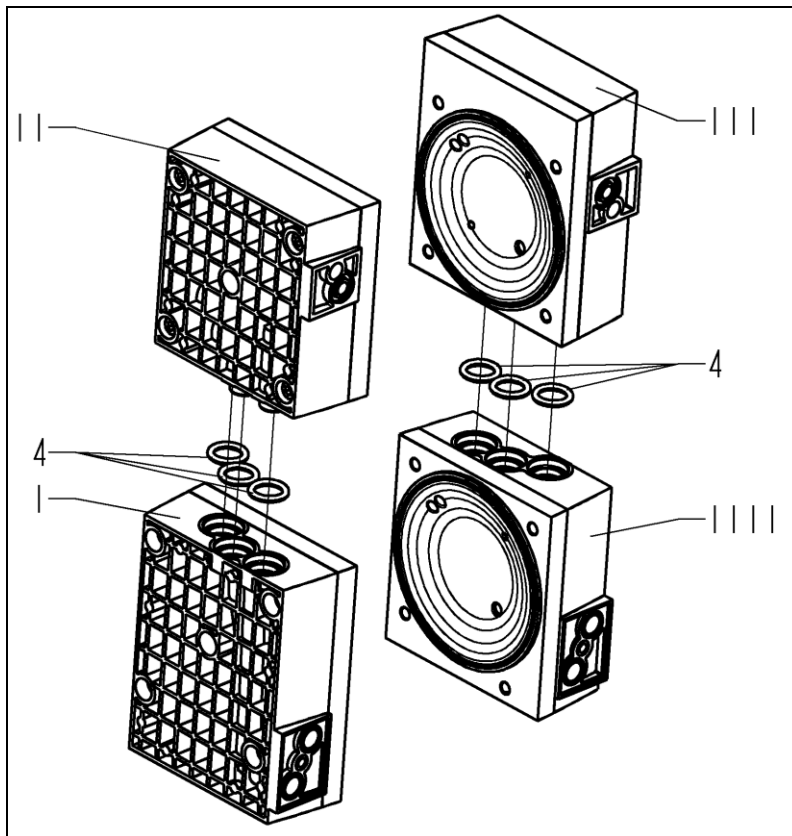
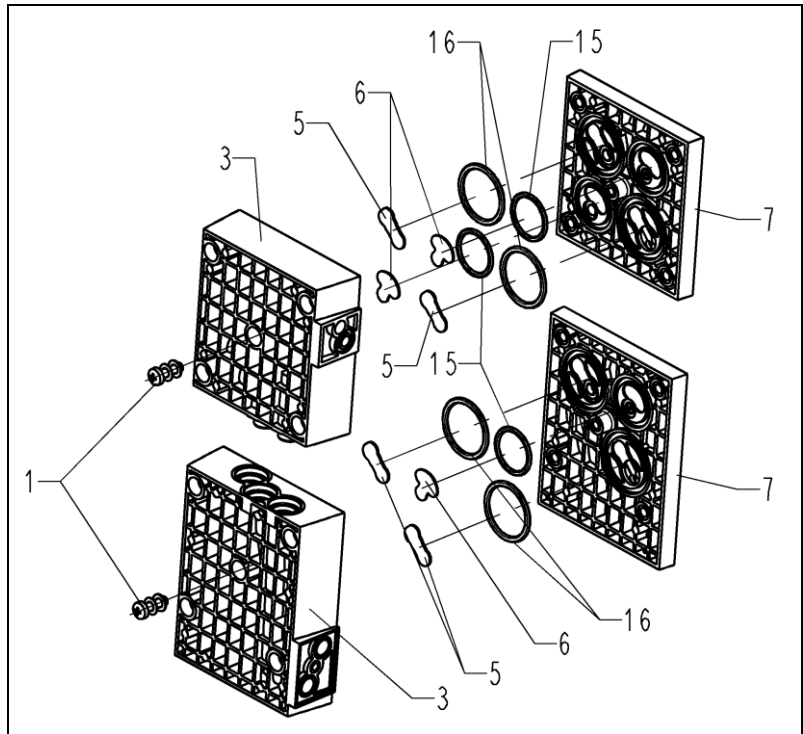
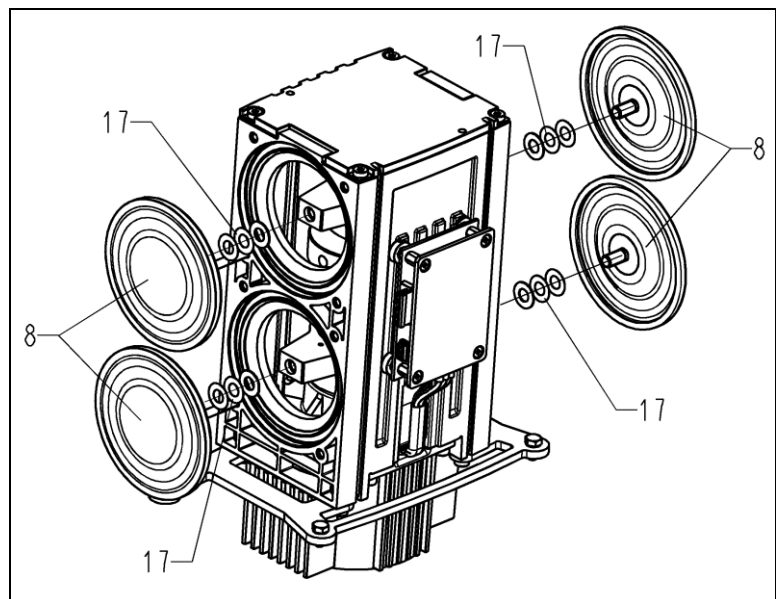

Fig. 24: Removing the O-rings
Fig. 25: Exploded drawing of pump heads 1 and 2
Fig. 26: Replacing the diaphragm
1. Head 1 (Fig. 24/I):
2. Head 2 (Fig. 24/II):
3. Head 3 (Fig. 24/III):
4. Head 4 (Fig. 24/IIII):
6. Pull apart heads 1 (Fig. 25/I) and 2 (II) and heads 3 (III) and 4 (IIII) and remove O-rings (**4**).
7. On all four heads, loosen the head screw (Fig. 26/1) in the head plate (**3**) and remove the head plate from the intermediate plate (**7**).
2. Remove from the intermediate plates (Fig. 26/7) the valve plates (5) and (6) as well as the O-rings (15) and (16).
4. Insert the new valve plates (Fig. 26/5) and (6) and the new O-rings (15) and (16) into the intermediate plates (7).
- i** The black O-rings (15) and (16) must be placed into the intermediate plate of head 4 (see Fig. 25)!
5. Place head plate (Fig. 26/3) onto the intermediate plates (7), observing the pencil marks (Fig. 24/M).
6. Carefully tighten the head screw of each head plate (Fig. 26/1). Use light force and tighten only to hand-tightness (tightening torque: 60 Ncm).
1. Place three O-rings (Fig. 25/4) into each of the head connection holes.
- i** The three black O-rings (4) must be placed into the connection holes between head 3 and head 4!
2. Press together heads 1 and 2 (Fig. 24/I and II) and heads 3 and 4 (III and IIII).
4. Insert O-rings (Fig. 24/14) and flat seals (11) into the grooves or depressions in the head plates.